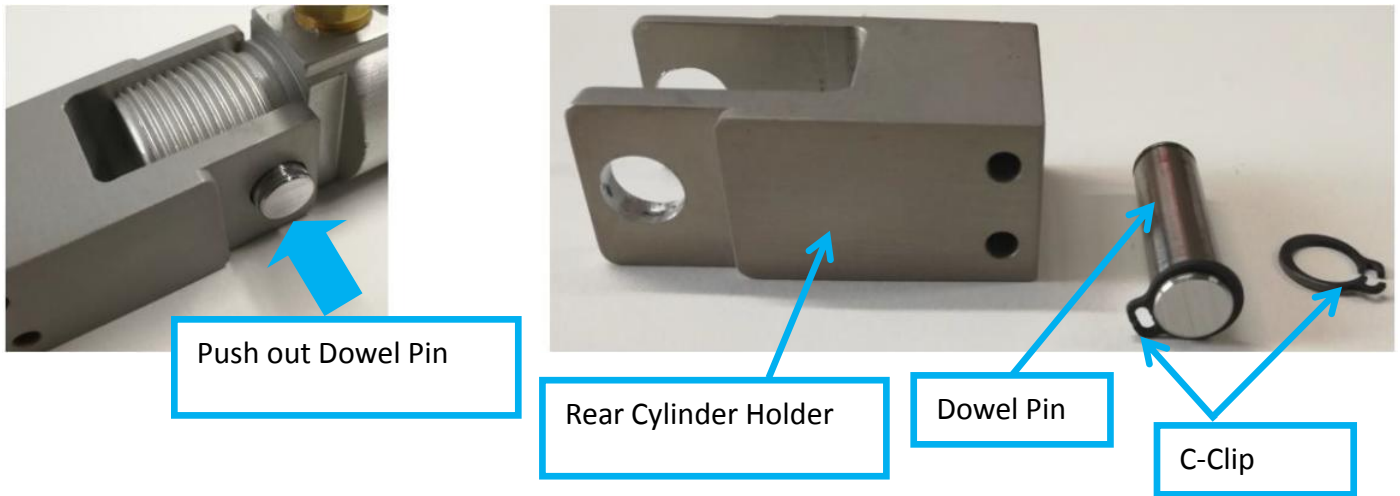

Figure 12
16. Gently push out the Dowel Pin from Rear Cylinder Holder as Figure 12. Remove dowel pin & Rear Cylinder Holder as Figure 12